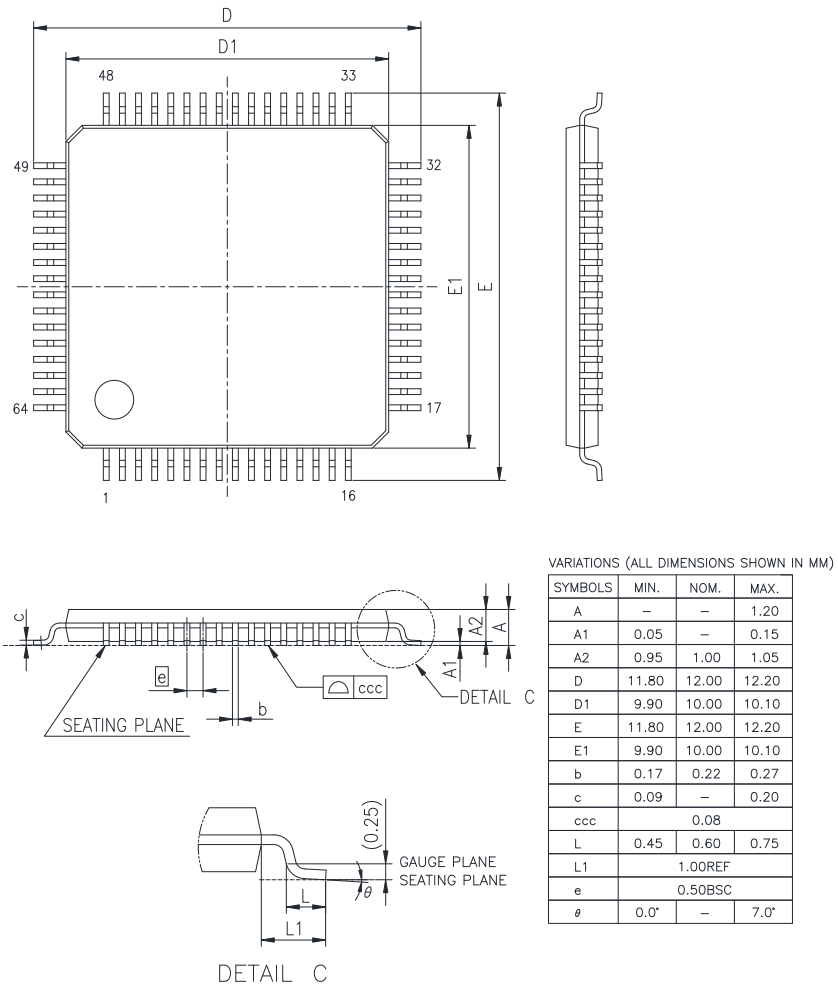

Figure 1.7-3 Package Dimension of 64 pins 10mm * 10mm 0.5mm pitch
- 64 pins 10mm * 10mm 0.5mm pitch Figure 1.7-3